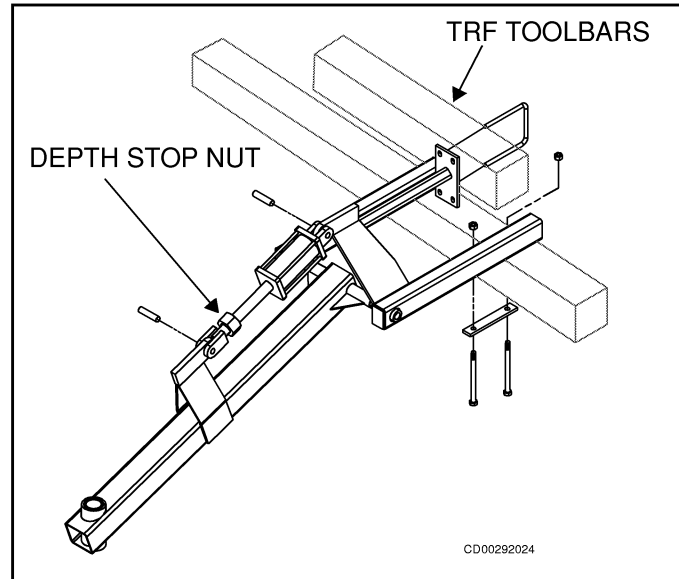

Figure 60 Fastening Lift Assist to Toolbar
1. Fasten frame assembly to toolbar, using 7/8" bolts, lock washers, and hex nuts as shown in Figure 60.
3. Remove clevis from rod end of hydraulic cylinder and attach depth stop nut as shown in Figure 60.